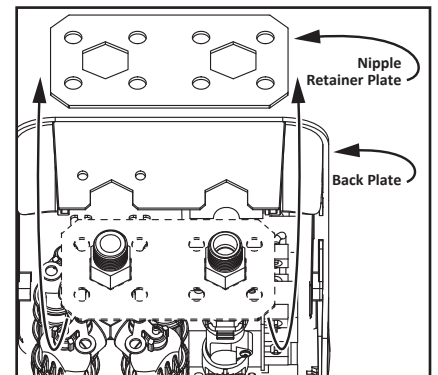

Figure 32 - Nipple retainer plate removal.
**8** Remove the nipple retaining plate by gently pulling the top of the assembly until the nipple retaining plate has cleared the back plate. Remove the nipple retainer plate and place it out of the way. See Figure 32.
**4** Reinstall the nipple retainer plate and position/seat the assembly into place. See Figure 32, page 22.
**5** Secure the inlet in place with the heat-sink/inlet tube brackets. Hand tighten the Phillips screws in place, **DO NOT** over tighten. See Figure 32, page 22.